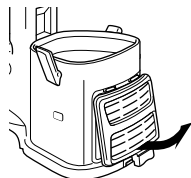

Fig. 21
- 1 Remove the filter cover from the front of the canister by pulling up on the tab and pulling the cover away from the vacuum. **(Fig. 21)**